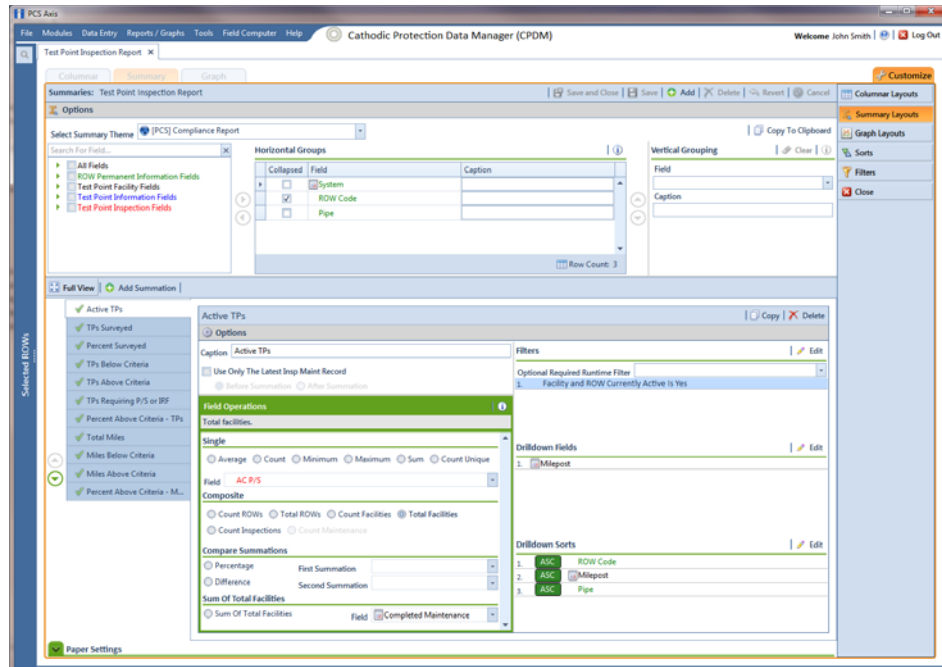

Figure 15-33. Summary Layouts
- 4 Click the **Summary Layouts** button  to open the *Summaries* page (Figure 15-33, page 653).